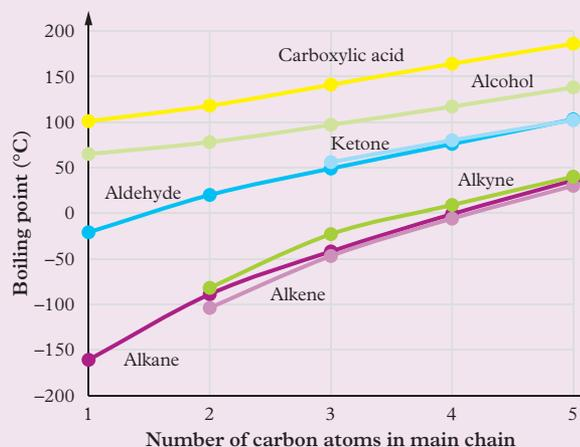

FIGURE 6 The boiling points of various organic compounds
- 7 **Analyse** the data in the graph in Figure 6, and **discuss** the significance of the trendlines with respect to the functional groups present in each of the organic compounds.